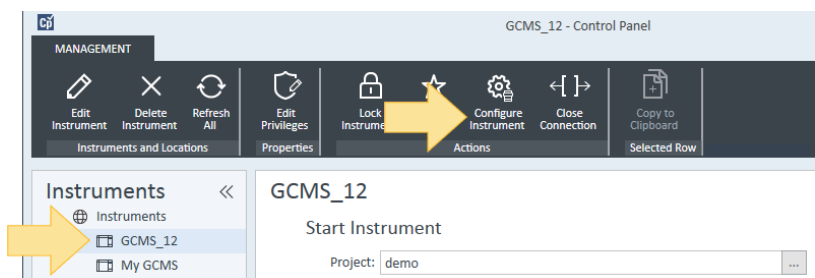

Figure 1. OpenLAB control panel
- 3 In the Control Panel, with your instrument selected (GCMS 12 in **Figure 1**), click **Configure Instrument**.